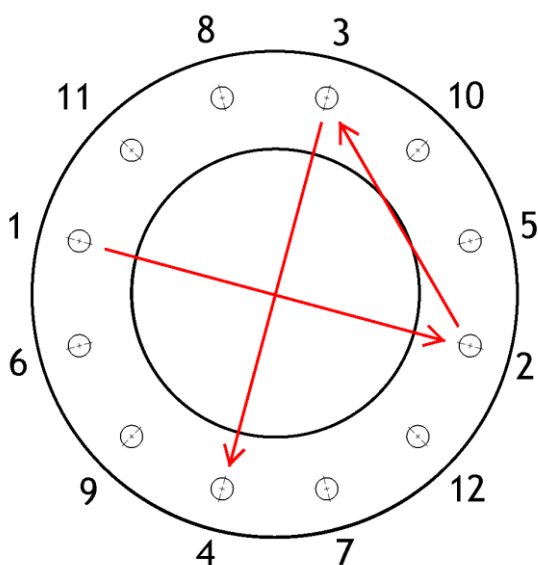

Figure 7. Flange bolt tightening example.
3. Tighten the flange bolts evenly in a crosswise sequence as shown in Figure 7. Flange bolt tightening example.